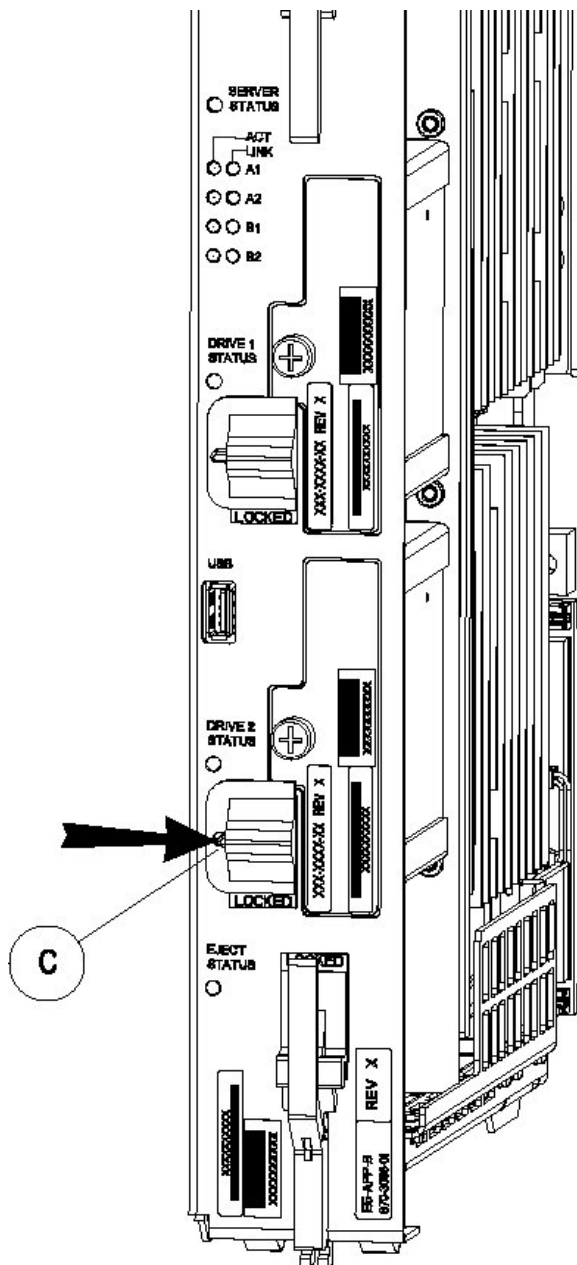

Figure 46: Drive Module Released
Move the switch lock release (C) to the "released" position by pressing in the direction indicated. Refer to Figure 46: Drive Module Released.